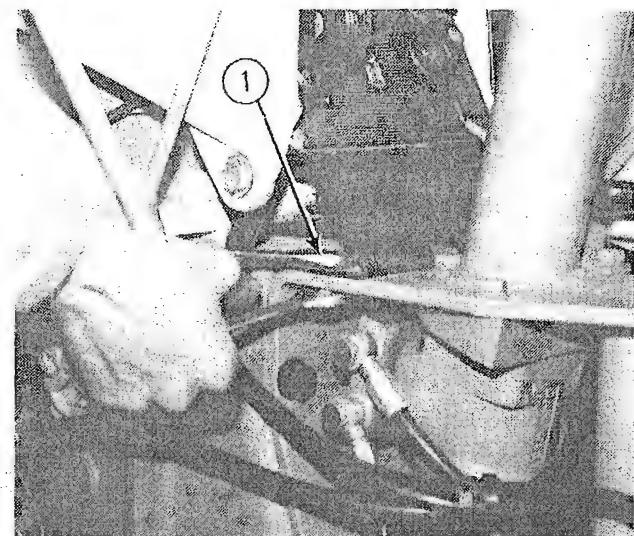

FIG. 6
- (7) The dash panel by removing (2) 10mm. bolts and nuts and loosening the hexagon mounting stud for the hydraulic lift lever. (1, Fig. 6)